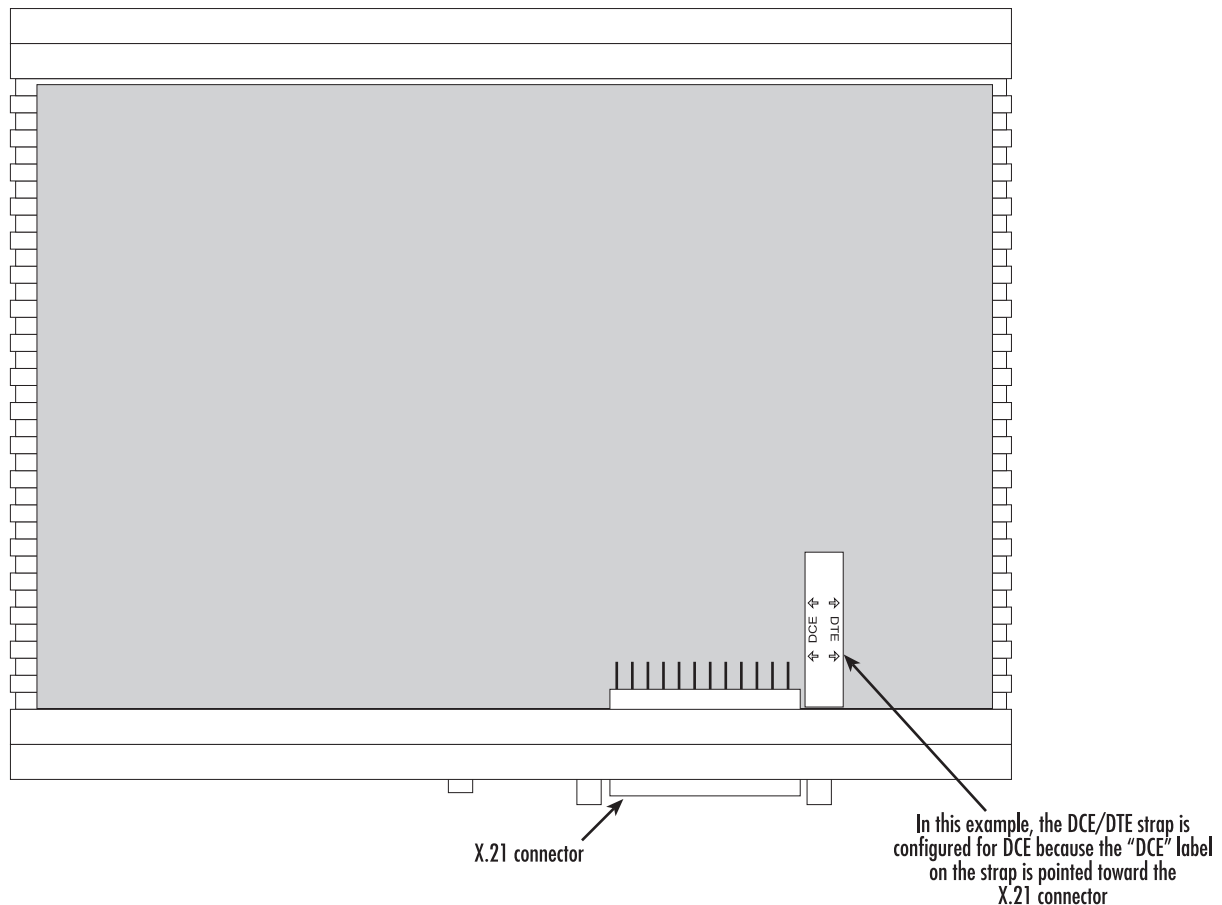

Figure 9. Location of DTE/DCE board
2. Locate the small daughter board on the Model 2621 board to the right of the DB-9 connector (figure 9 shows location of DTE/DCE daughter board).